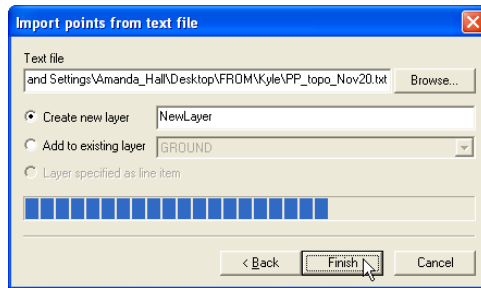

Figure 3-5. Open Point Text File
The *Import points from text file* dialog box displays (Figure 3-5 on page 3-5).
6. Click **Finish** to import the points (Figure 3-5).